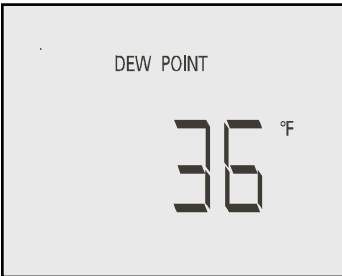

Figure 2
5.1.4 To Display Dew Point - Press Δ button. Dew Point is displayed in °F. (Fig. 2)